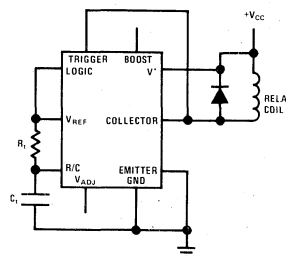

FIGURE 3. Time Out on Power Up (Relay Energized  $R_t C_t$  Seconds After  $V_{CC}$  is Applied)
*Figure 3* is an application where the LM122 is used to simulate a thermal delay relay which